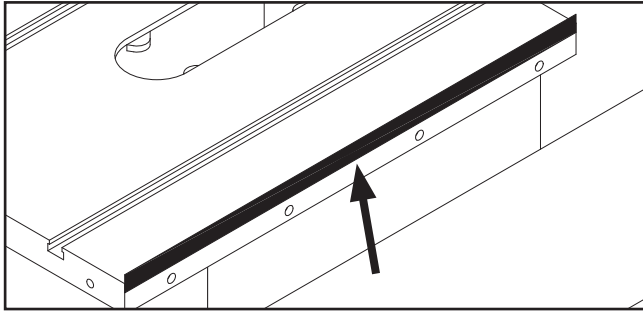

Figure 16. Masking tape location for adjusting the extension wing down.
- If the outside end of the extension wing tilts up, use a strip of masking tape along the top edge of the main table to shim the extension wing down (**Figure 16**).